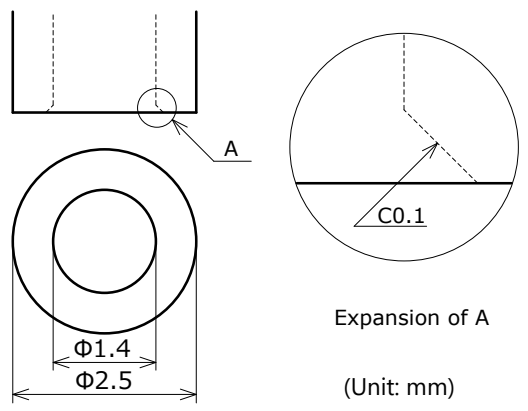

Figure 2. Recommended Nozzle Dimensions
1. Figure 2 shows the recommended dimensions for the pick-and-place nozzle. The recommended material of the nozzle tip (i.e. the suction part) is rubber.